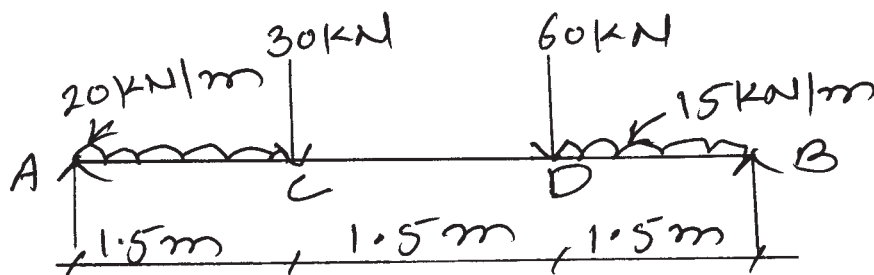

Fig. No. 4
- b) Draw the shear force and bending moment diagrams for the beam as shown in Figure No. 4.